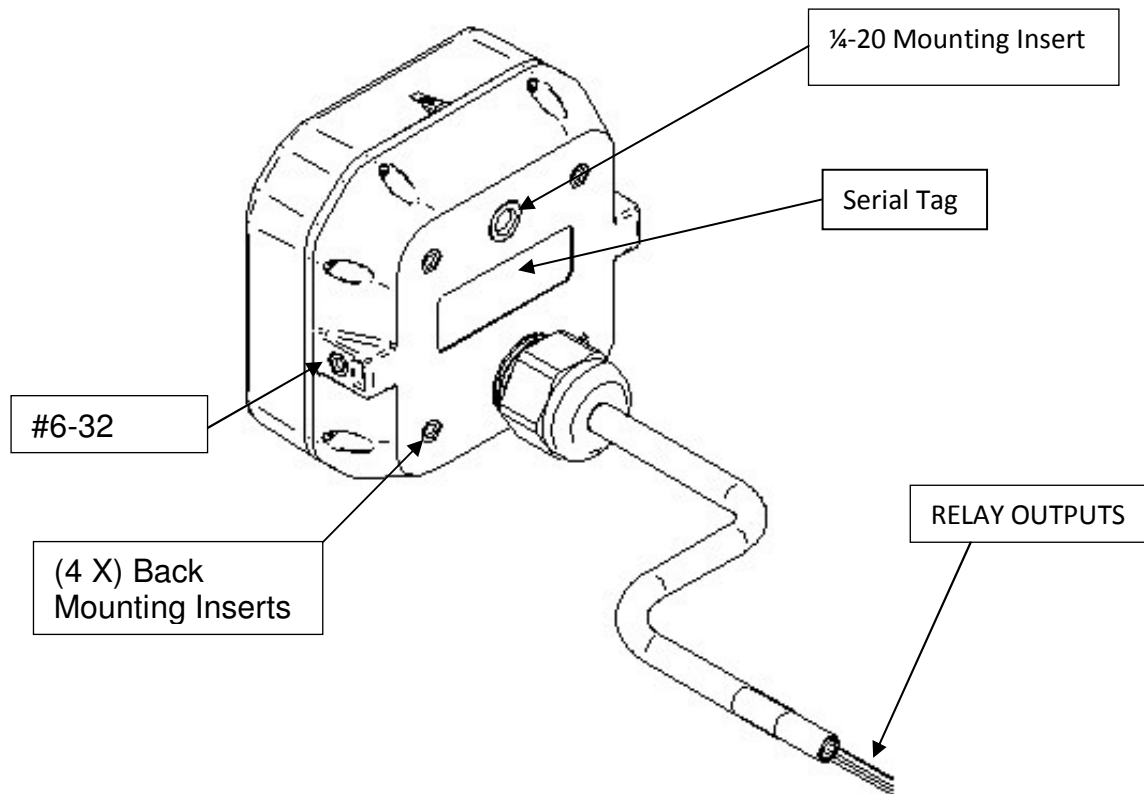

Figure 1
The Seeker radar sensor includes inserts located on the sides and back of the unit for flexible installation options (see Figure 1). Two sizes of inserts are supplied on the back which are (4) #6-32 and (1) 1/4-20. Standard size screws can be used and it is recommended that stainless steel screws be used if the unit will be exposed to moisture. Depending upon the thickness of the mounting bracket used, be sure that the screws are long enough to clamp the bracket to the housing but not so long that if over tightened the screws will not push the insert out of the housing. Contact GTS Engineering Technologies if you require a special mounting bracket for your application.